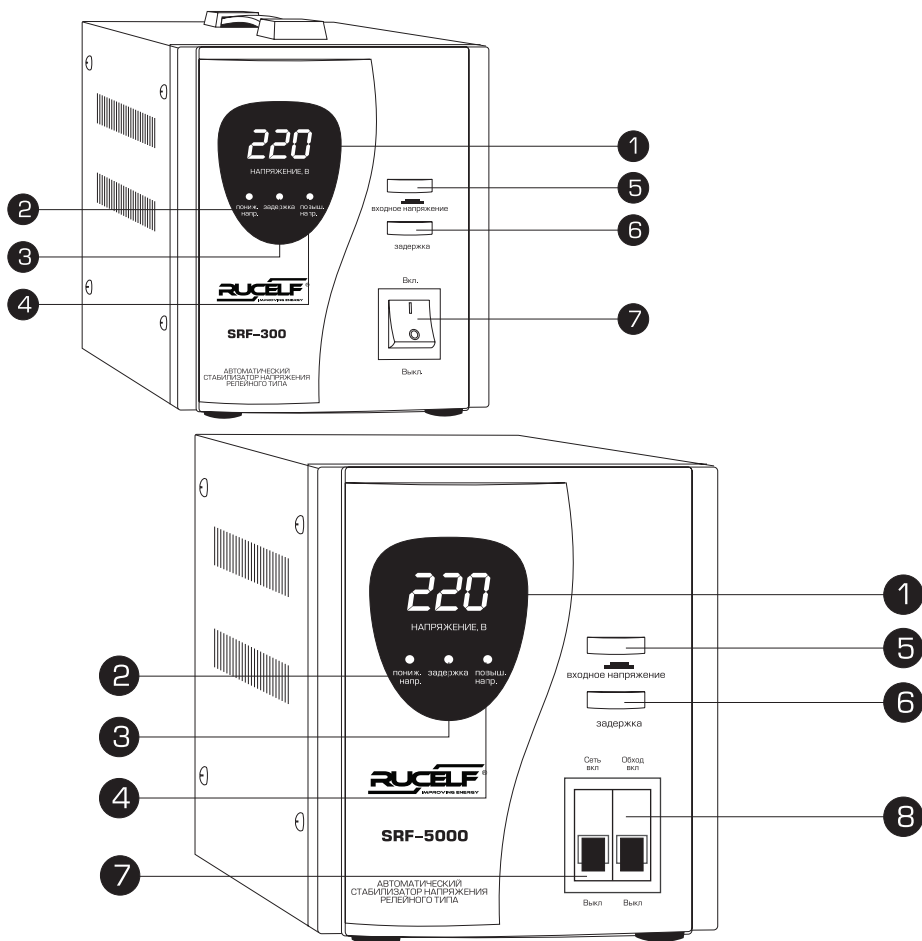

Fig. 2
- Before connection make sure, the automatic switch #7,8 (Fig. 2) are in the «Выкл.» position
- Set the button or the automatic switch #7 (fig. 2) in the «Вкл.» position.
- During pushing and holding the «Input voltage» «Входное напряжение» button #5, (fig. 2), you can see the value of input voltage on the display. During release of this button, the stabilizer will show the output voltage.
- If you want to set the starting time delay 225sec, you need to press the button «Delay» «Задержка» #6 (fig. 2). If this function is activated, the indicator «Delay» «Задержка» #3 will be activated (fig. 2).